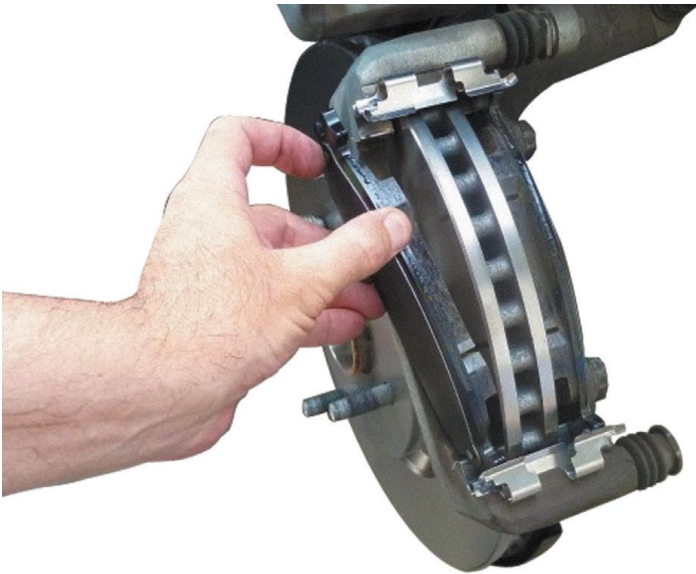

Figure 3. Typical brake pads.
- The lining of a disc brake is part of an assembly called the brake pad. A brake pad is a relatively simple part that consists of a block of friction material attached to a stamped steel backing plate. Figure 3.